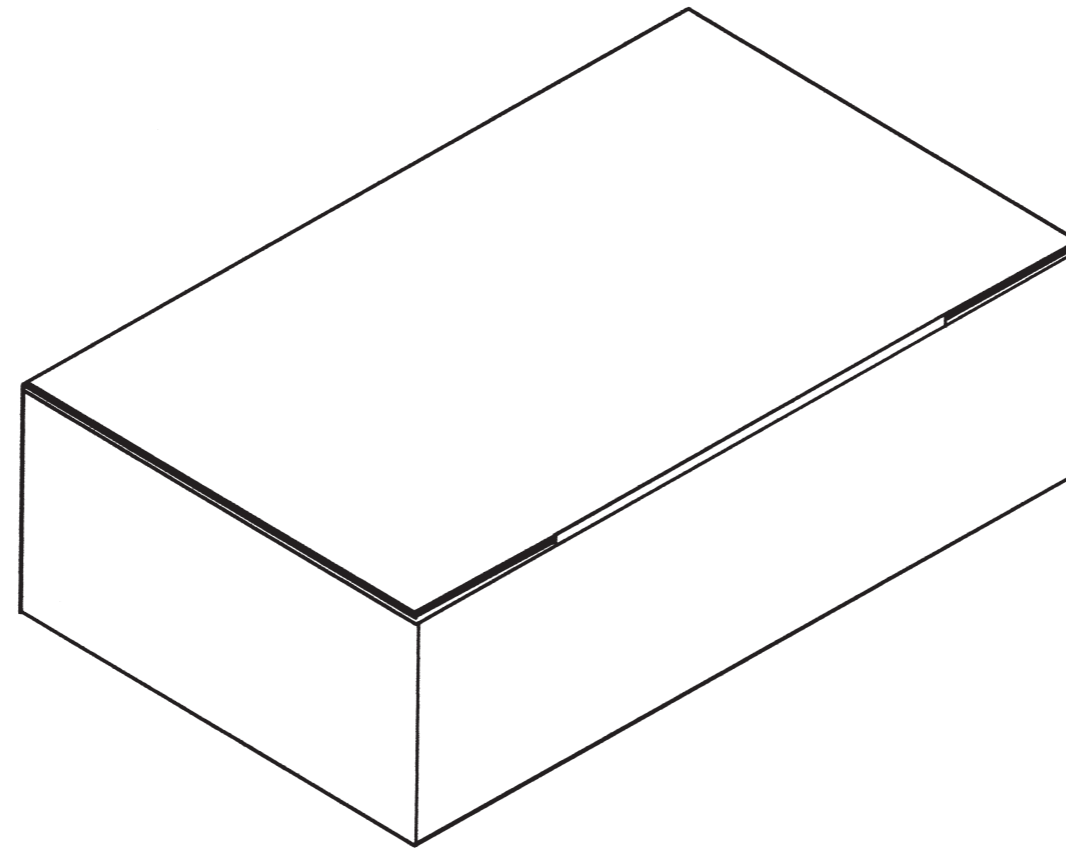

Figure 5
- 3 Complete the graphic detail for your selected design on **Figure 5**. Include the lid and sides in your final presentation drawing.